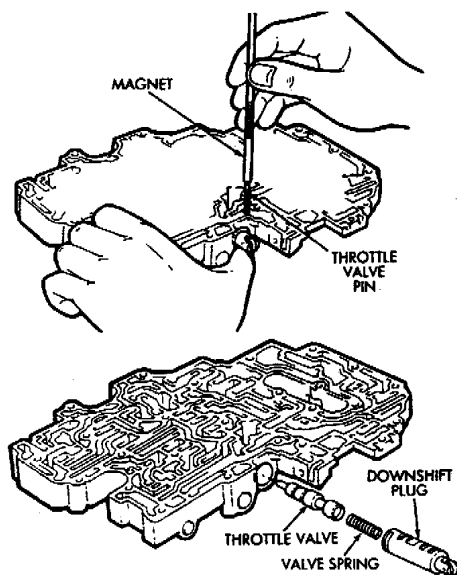

Fig. 4 Removing/Installing Throttle Valve
(4) Remove throttle valve pin with magnet and remove downshift plug, valve spring and throttle valve (Fig. 4).